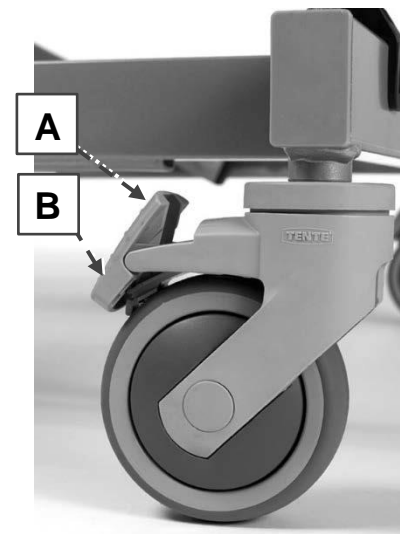

Figure 3 Castor wheel with brake
1. Check whether the brakes of the castor wheels (10) are applied, see Figure 3.